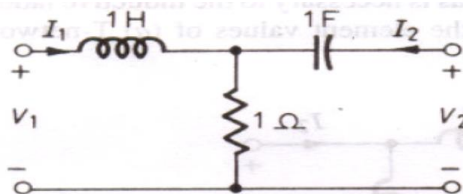

Fig. 7.73
9. For the network shown in Fig. 7.73, find (a) h-parameters (b) ABCD parameters (c) z-parameters.